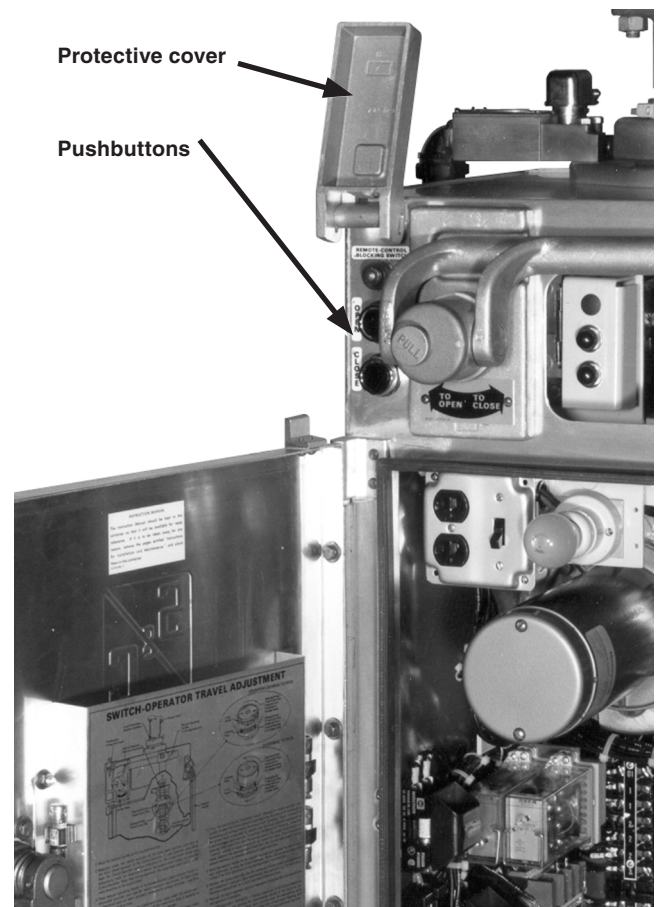

Figure 4. The pushbutton protective cover and pushbuttons.
STEP 1. Unlock and lift the external pushbutton protective cover. See Figure 4.